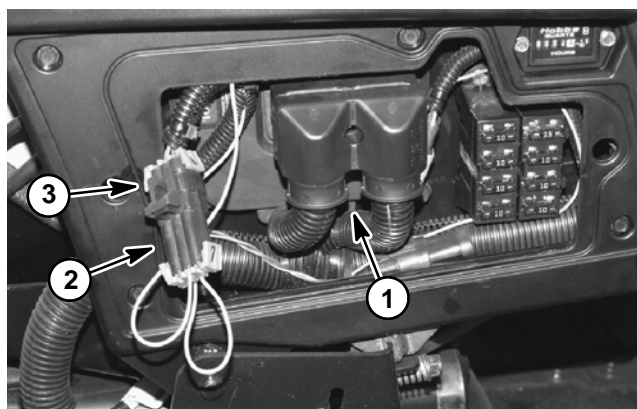

Figure 12
2. Open control panel cover. Locate wire harness and connectors near TEC controller. Carefully unplug loopback connector from harness connector (Fig. 12).